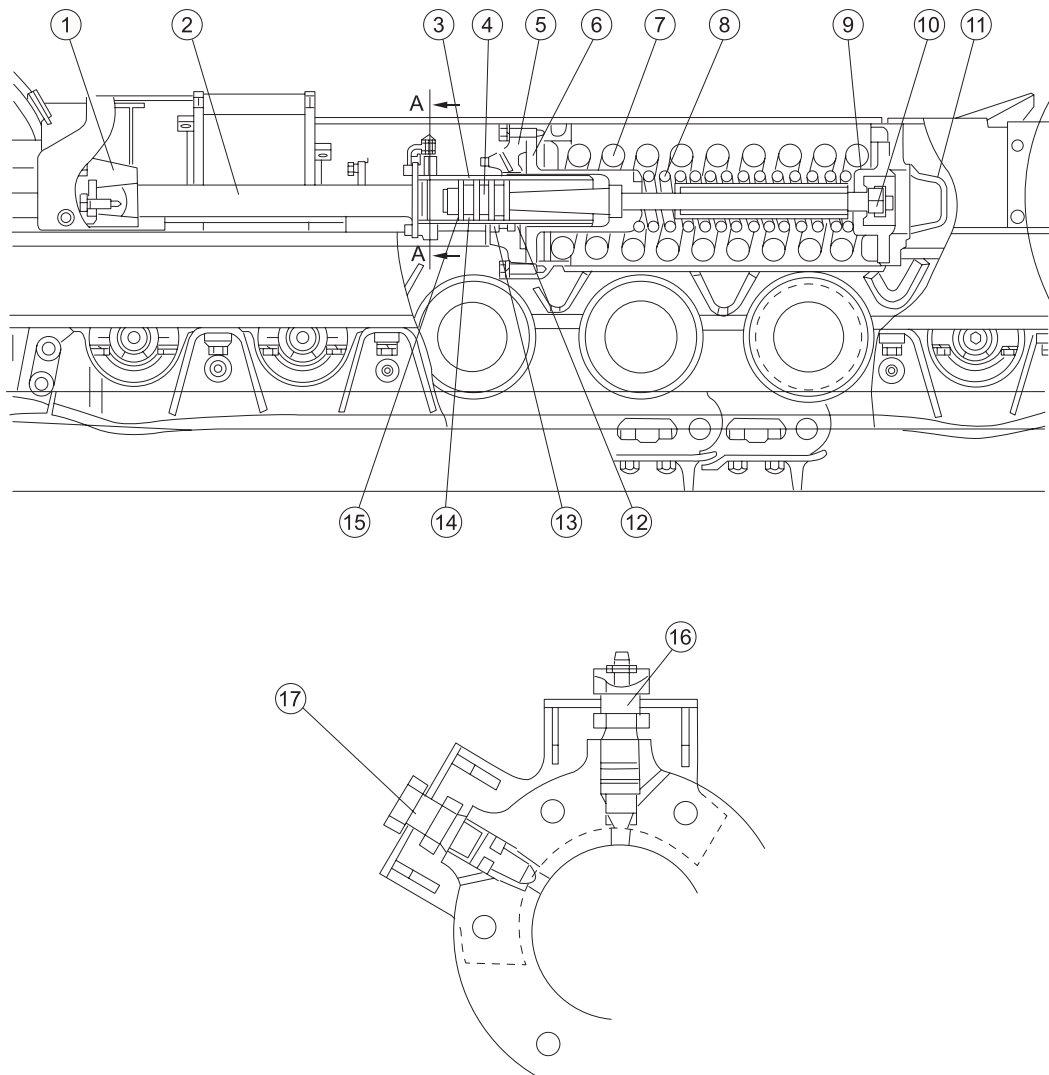

Figure 3-42
3.10.1 TRACK TENSION DEVICE (SEE FIGURE 3-42)